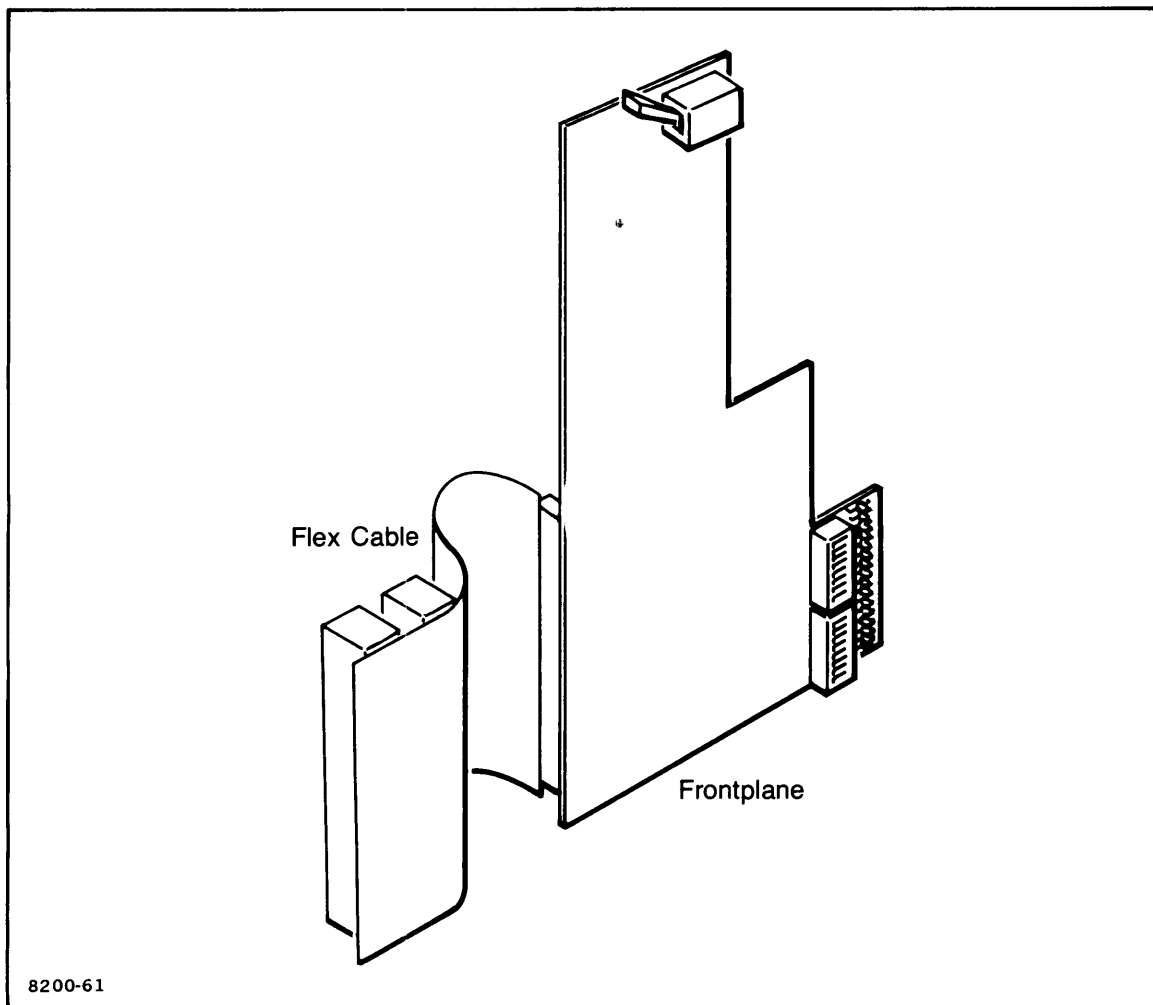

Figure 2-4. Flex Cable Interconnect
- d. Connect the flexible cable header connector to the frontplane board control store connector, and reinstall the frontplane board (see Figure 2-4). Attach the flexible cable control store connectors to all installed control store cards, and complete the operational checkout procedures referenced in paragraph 2-7.